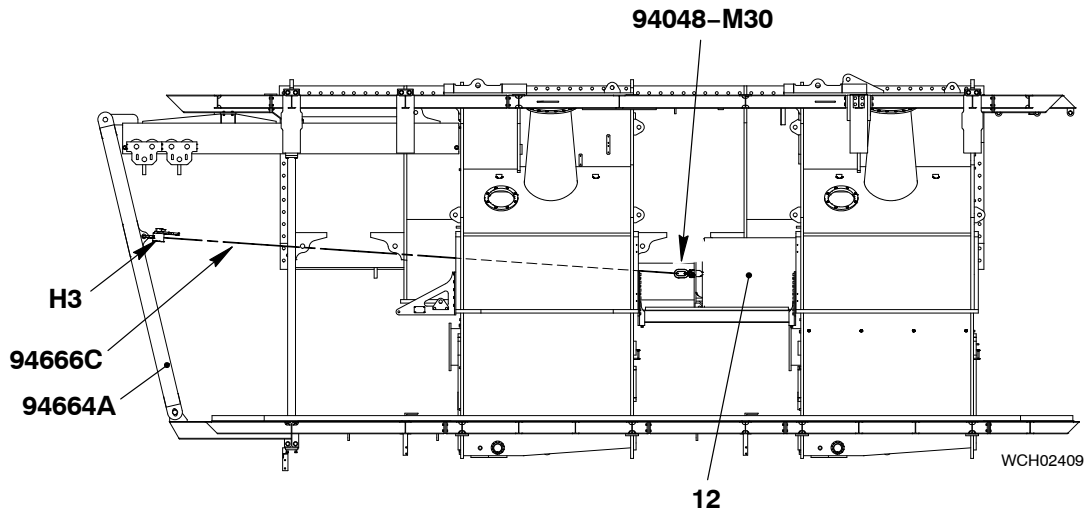

Fig. 9
- 9) Attach the manual ratchet (H3, Fig. 9) to the dismantling pipe (94664A).
- 10) Attach the manual ratchet (H3) to the dismantling pipe (94664A) and the center swivel lug on the SAC (12).